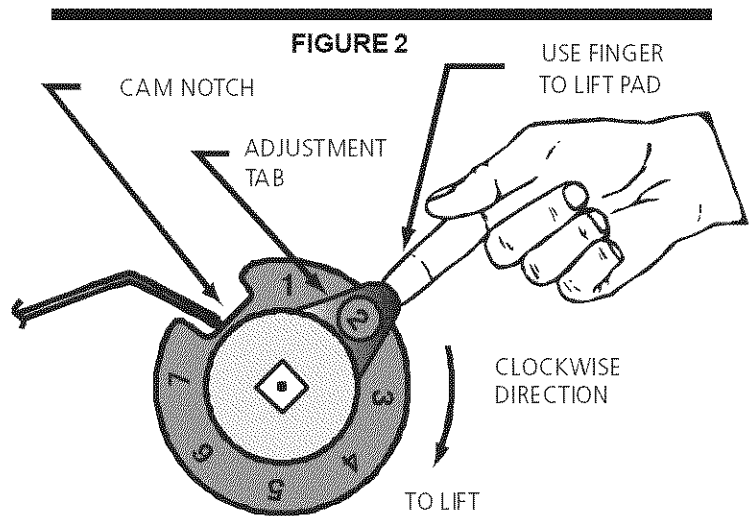

FIGURE 2
3. Turn Shaft & Cam Assembly in a clockwise direction until switch lever arm drops into cam notch (Fig. 2).